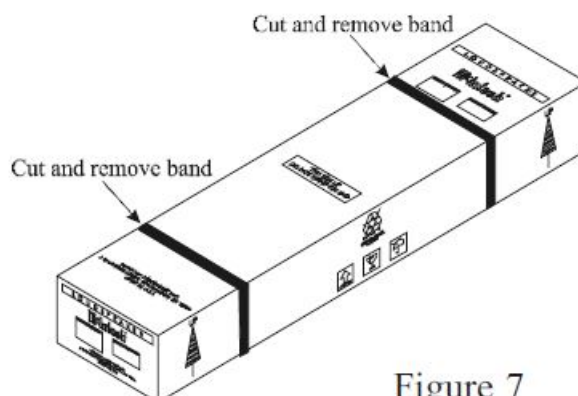
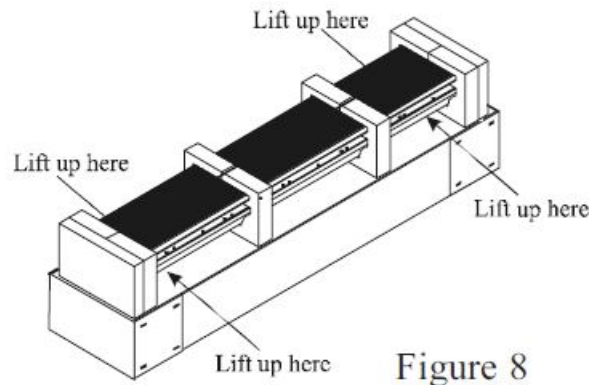

Figure 7
Figure 8
1. Remove the banding material from the shipping carton. Refer to figure 7.
3. Lift up on the rear of the Column Loudspeaker, near the foam Figure 7 packing material at both ends. Place the entire assembly (Column, Loud-speaker Grille and foam packing material) next to the bottom shipping carton on a flat surface. Refer to figure 8.